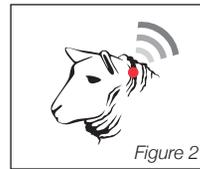

Figure 2
3. The microchip should be implanted at the base of the left ear in sheep, llamas, alpacas and in the left tail fold/web in goats. Prepare the site where the microchip is to be implanted, as seen in Figure 2.